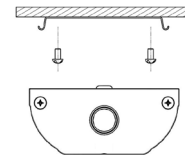

Fig.4 SURFACE MOUNTING
STEP 4 Snap Housing on Snap On Brackets as shown in Fig. 4.